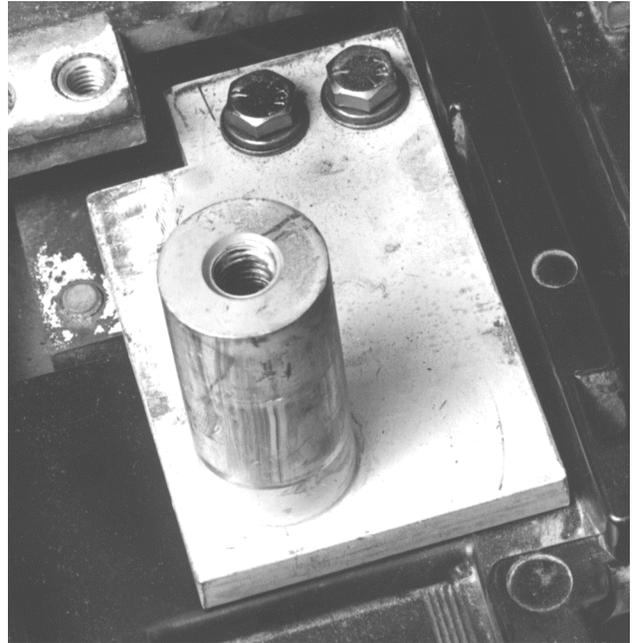

Figure 6. CT post mounted in the breaker back frame.
1. Mount the new copper CT post to the back frame with the two $\frac{3}{8}$ -16 x $1\frac{1}{2}$ " bolts, flat washers, and lock washers provided, as shown in Figure 6.